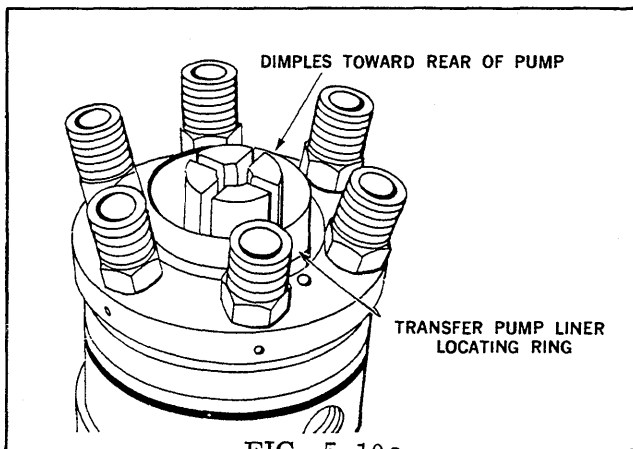

FIG. 5.10a
STEP 10 The inside diameter of the transfer pump liner locating ring has dimples to keep the rotor retainers tight. The dimples are not centered longitudinally. Place the liner locating ring over the retainers with the dimples towards the rear of the pump. No dimples should coincide with the points at which the two retainers join. Do not seat the liner locating ring at this time (Fig. 5.10a).